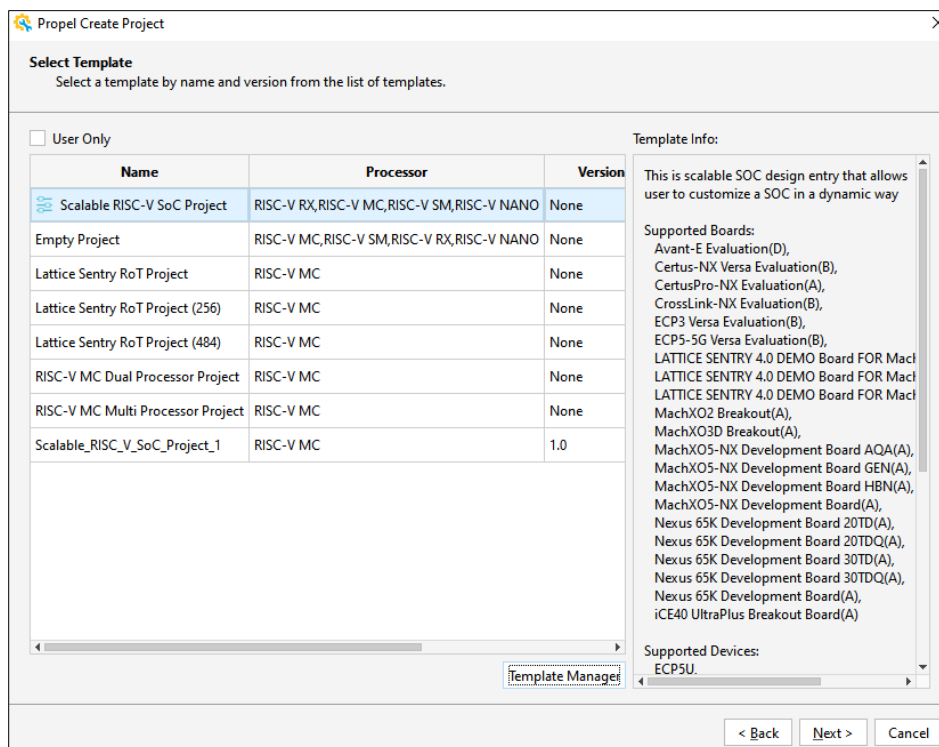

Figure 4.3. Select Scalable SoC Project
3. Select **Scalable RISC-V SoC Project** (Figure 4.3).